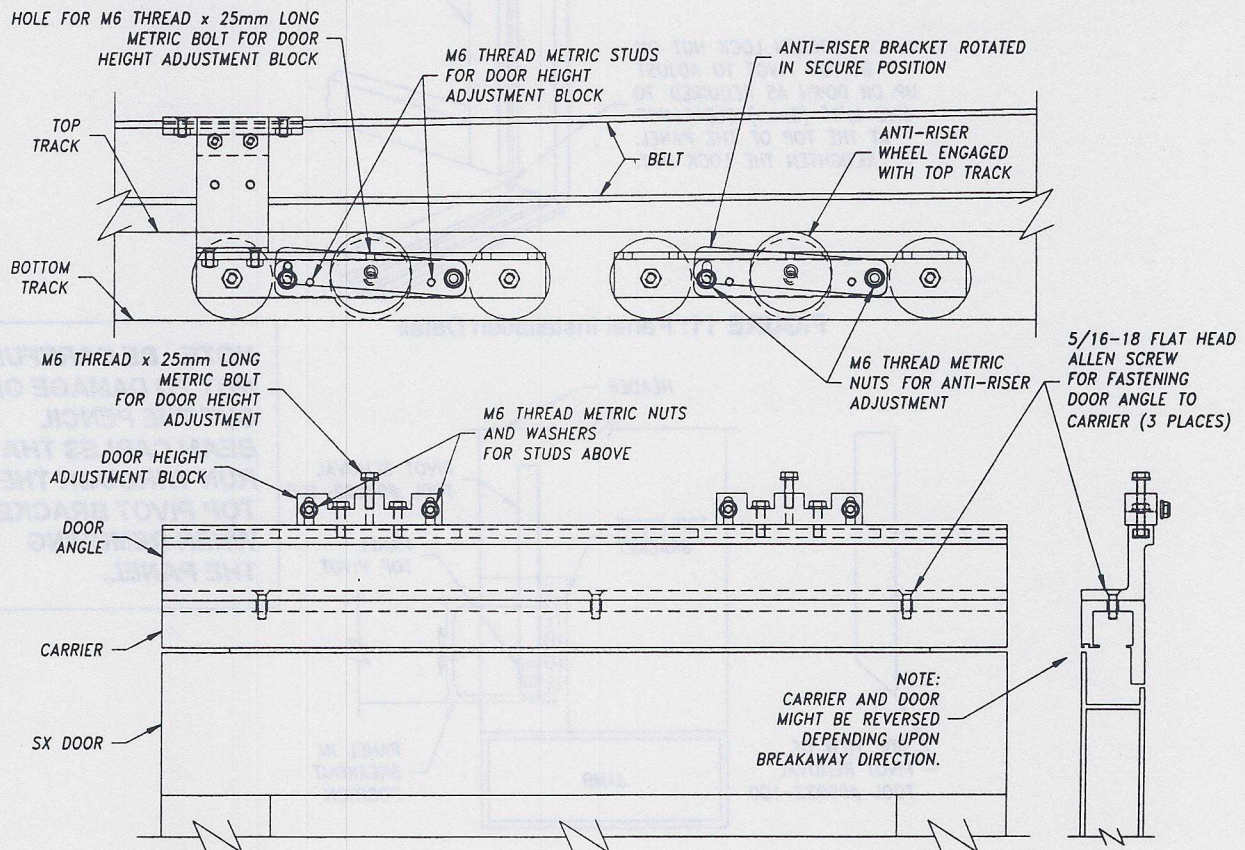

FIGURE 14: Anti-Riser Adjustment and Door (SX) Attachment Procedure
2. Verify that the anti-riser wheel is securely engaged with the top track of the header on all roller assemblies (Figure 14).
3. Using the 5/16-18 flat head socket screws supplied, attach the door angle/adjustment block assembly to the top of the carrier. Make sure that the door matches the angle and will break out to the proper side (Figure 14).